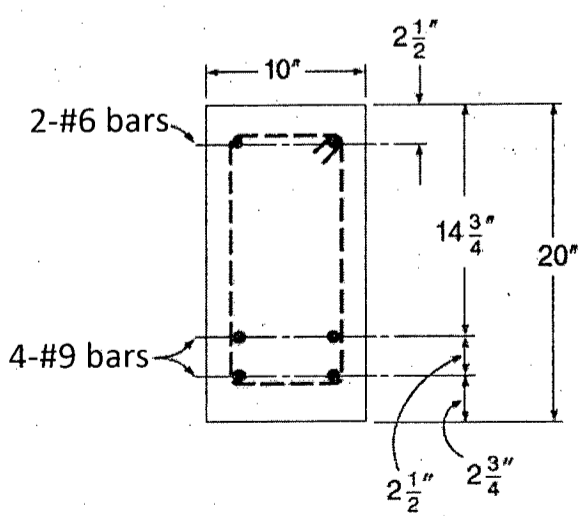

Fig. 4
- (c) Why hooks are provided in the reinforcing bars? Draw neat sketch showing the standard bar hooks dimensions according to ACI code. (8)
3. (a) What do you mean by development length of a reinforcing bar? What are the factors that influence the development length? (5)
- (b) For the beam cross section shown in Fig. 4, what are the development lengths of the top #6 bars and bottom #9 bars for #4 (No. 13) stirrups with  $1\frac{1}{2}$  inch clear side cover spaced at 6 inch? Use the simplified development length equations. Given, normal weight concrete,  $f'_c = 4000$  psi. (15)